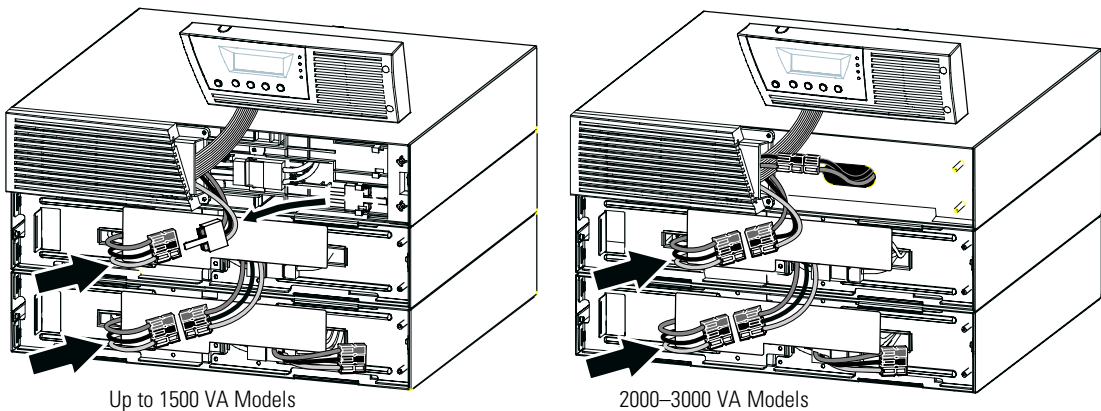

Figure 13. Typical EBM Installation
5. Plug the EBM cable(s) into the battery connector(s) as shown in Figure 13. Up to four EBM's may be connected to the UPS.